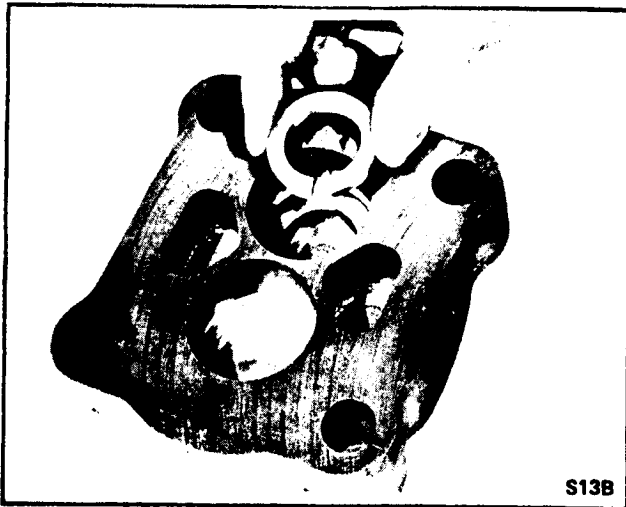

Fig. 14 - Removing Ring Seal
12. Check the ring seals for wear. Replace if necessary. To replace, pull the drive gear bearing with a bearing puller and remove ring seal from the bottom of the bearing bore. See Fig. 14.